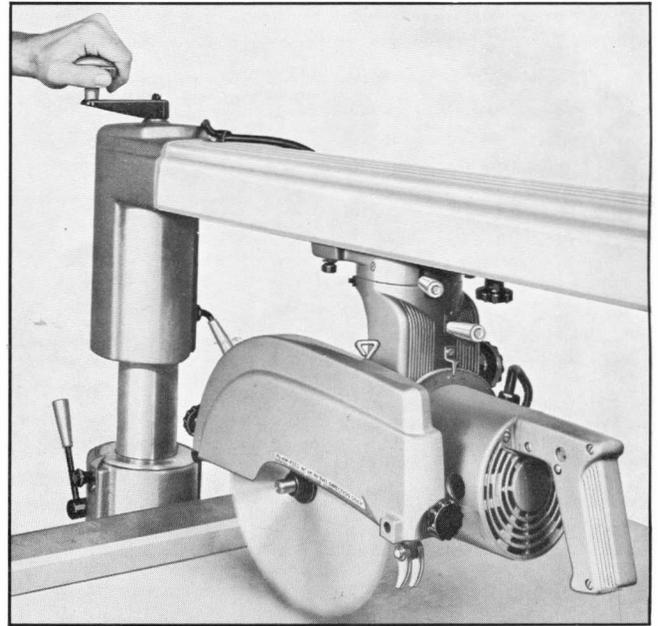

Fig. 16
7. Lower radial arm until blade cuts into table top or auxiliary table top if used $\frac{1}{32}$ inch. (THIS IS ALL THAT IS NECESSARY). See fig. 16.